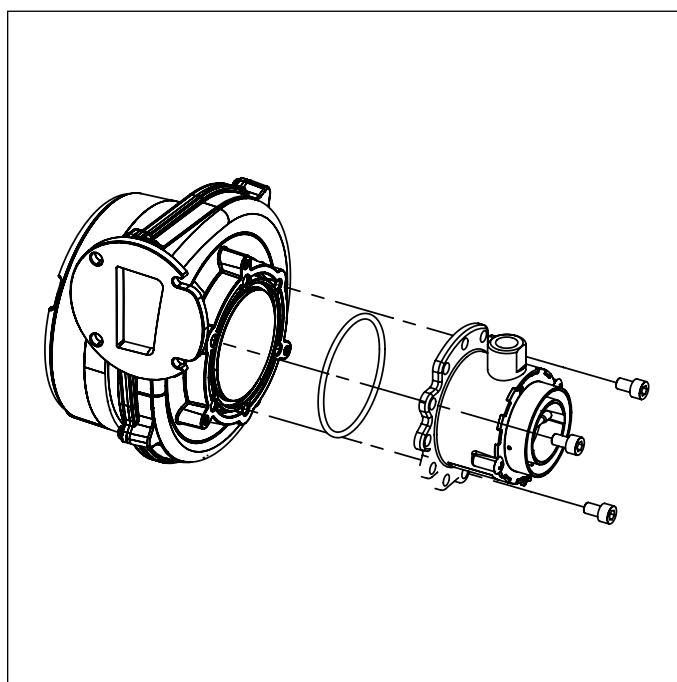

Fig. 42 Mixer
- Loosen the three socket head screws, and remove the mixer (see Fig. 42 Mixer).